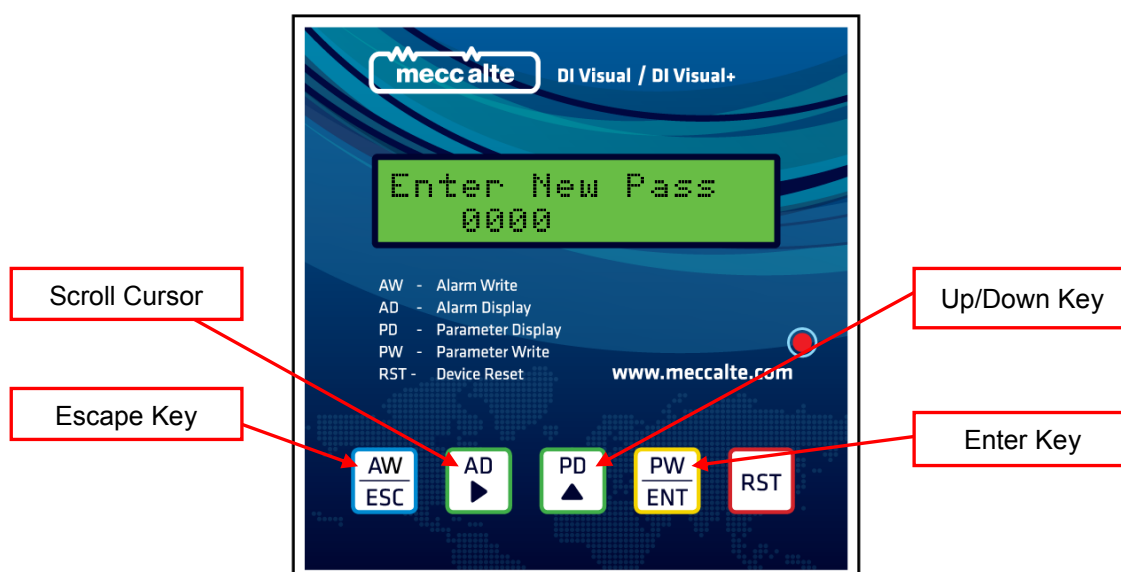

fig. 7
- 2) Once valid password is entered the System will prompt for new password entry as shown in Fig. 7 below.